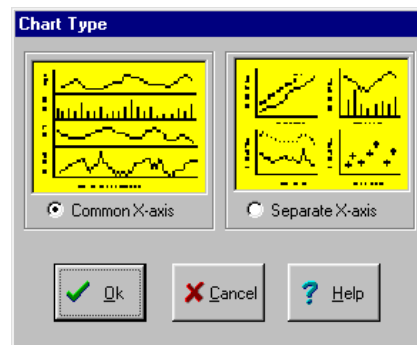

Figure 1.22 Chart Type selection window
DYMEX provides two methods of presentation for chart outputs: the charts may be either separate or on a common X-axis and an exemplar display is presented by the window (figure 1.22). The default selection is 'Common X-axis'.
1. Select the Chart button  to open the '**Chart Type**' selection window (figure 1.22);